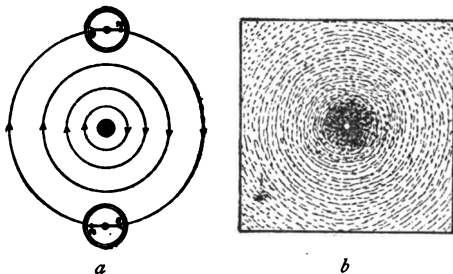

FIG. 193
**221. Oersted's Experiment.** If a small compass is placed in various positions about a vertical wire through which a current of electricity is passing, there will be a change in the direction in which the needle points. If the wire is passing vertically through a card (Fig. 193*b*) and iron filings are sprinkled on this, they will take positions forming circles about the wire as a center.